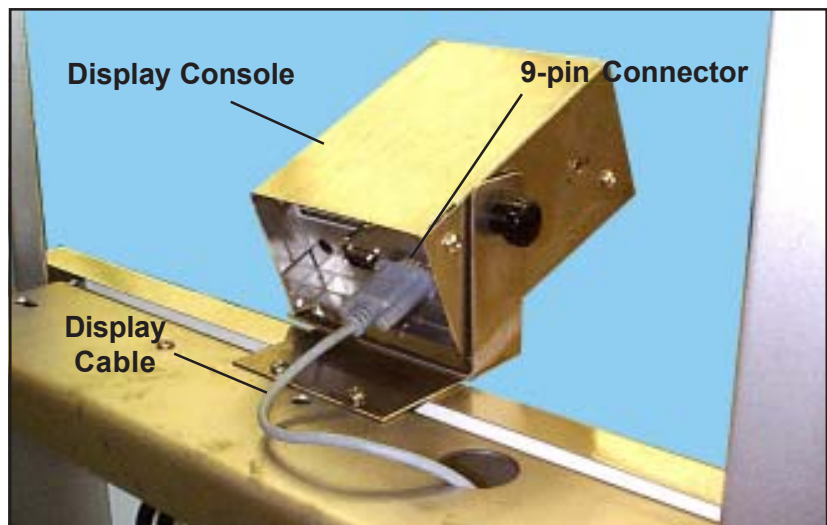

Figure 66. Display Cable Connection
1. Unplug the display cable from the 9-pin terminal on the bottom of the display console (Figure 66).
4. Plug the display cable into the 9-pin terminal on the display console (Figure 66).